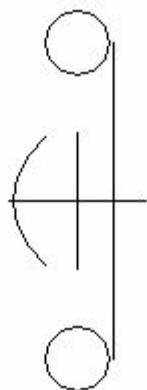

Figure-3. Component attached to cursor
- After selecting the category and subcategory, click on the desired symbol. The symbol will be attached to the cursor and you will be prompted to specify the location for the symbol; refer to Figure-3.